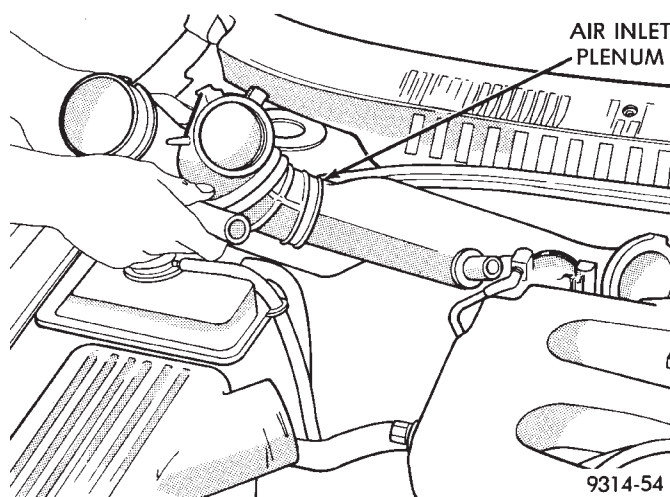

Fig. 4 Air Intake Plenum Removal
(8) Disconnect air plenum from throttle bodies, PCV make up air tube and idle air control motor. Remove plenum from the right side of the vehicle (Fig. 4).